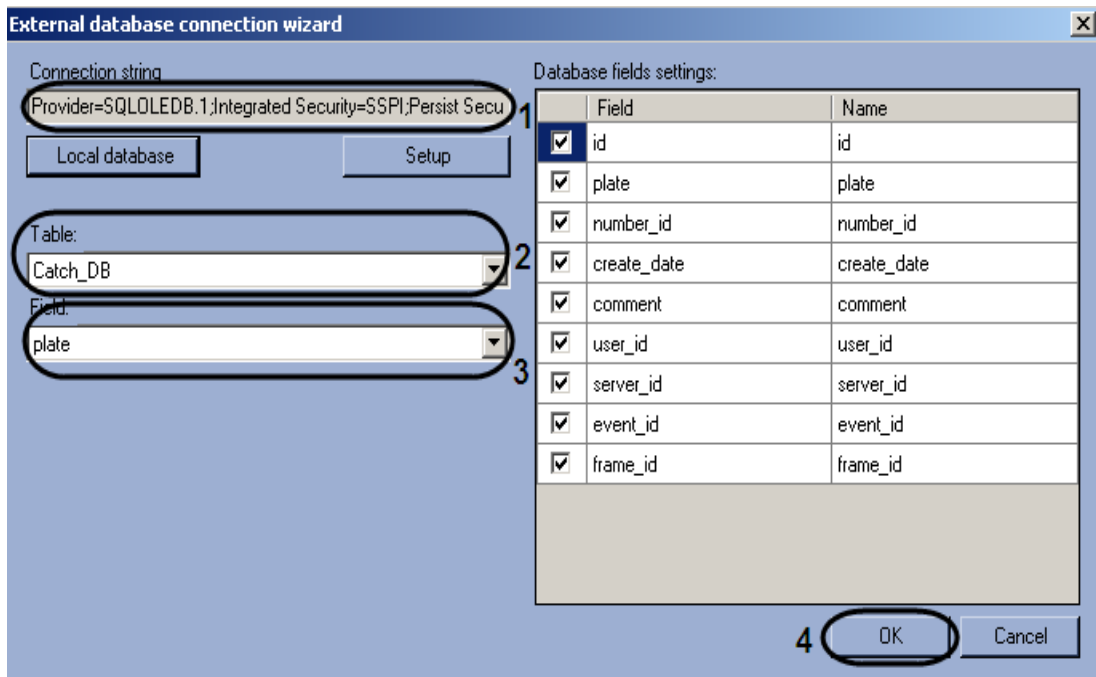

Fig. 7.5-6 Column selection with vehicle plates
6. After selecting the database (see step 5) in the window «External DB connection wizard» there will be displayed connection string with the selected database (Fig. 7.5-6, 1).
7. In the list «Table» (Fig. 7.5-6, 2) the names of tables in the selected database are displayed. Select the table, containing vehicle plates from the list.
8. In the list «Field» (Fig. 7.5-6, 3) the names of columns on the selected table are displayed. Select from this list the column with vehicle plates.
9. Click «OK» (Fig. 7.5-6, 4) to save, change or close the External DB connection wizard dialog window.
*Note. To quit the external DB connection wizard without saving the changes click «Cancel» (Fig. 7.5-6).*